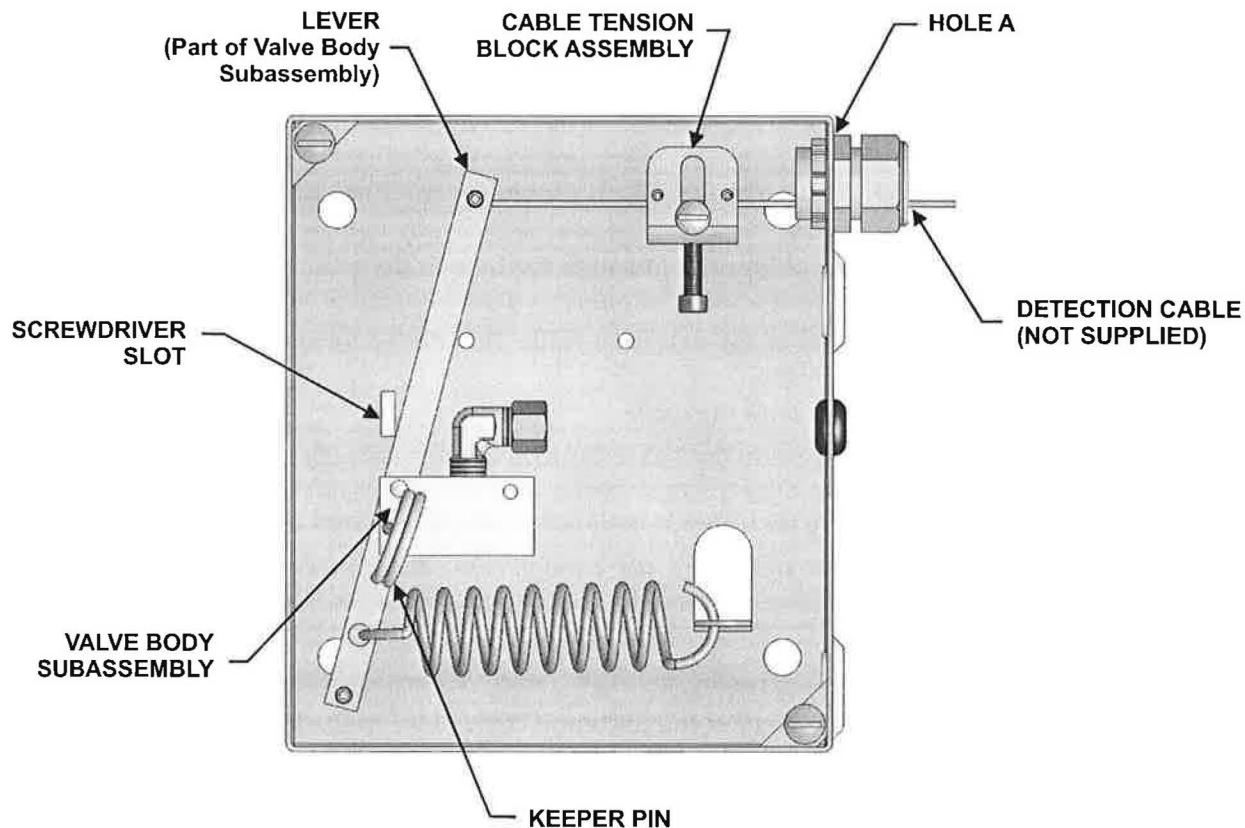

Figure 4-42. A+ Control Box in "SET" Position
22. Install the Keeper Pin (P/N 9197108). The A+ Control Box is now held in the "SET" position (see Figure 4-42).